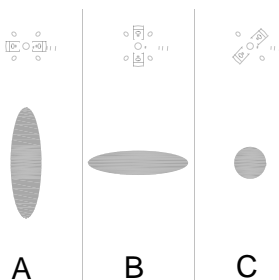

FIGURE 9.5
- Adjust the spray image of your AIR PLUS SPRAY SCHULZ (see Figure 9.5)